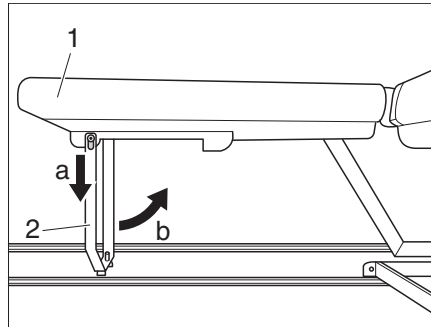

Fig. 7 Fold in the feet
- Press the bed extension (Fig. 7,1) down (a), fold in the feet (Fig. 7,2) (b) and remove the bed extension.